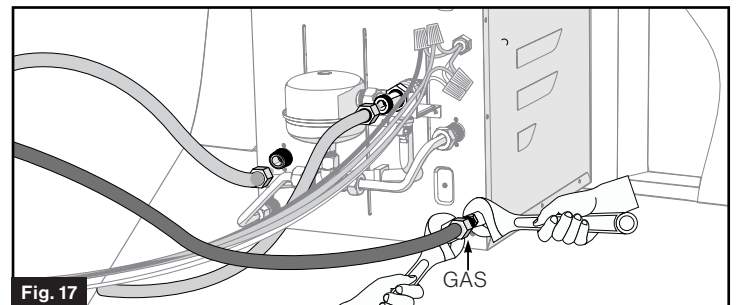

Fig. 17
1. Connect the gas service line to the 3/8" LP gas flared fitting on the back of the appliance. Use two wrenches to tighten the compression fitting. Avoid damaging the unit by over-tightening. (Fig. 17)